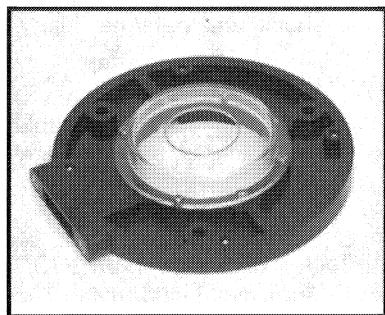

Fig. 2
- Use four #4-40 x 1/4" screws (from hardware package), to assemble the clear cover to the top of the vacuum base (see Fig. 2).